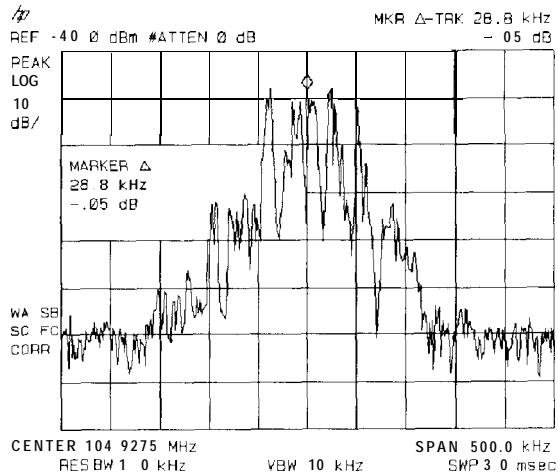

Figure 3-9. Using Marker Tracking to Track an Unstable Signal
5. The signal frequency drift can be read from the screen if both the marker track and marker delta functions are active. Press **[MKR]**, **MARKER Δ** , **[MKR FCTN]**, **MK TRACK ON OFF**; the marker readout indicates the change in frequency and amplitude as the signal drifts. See Figure 3-9.